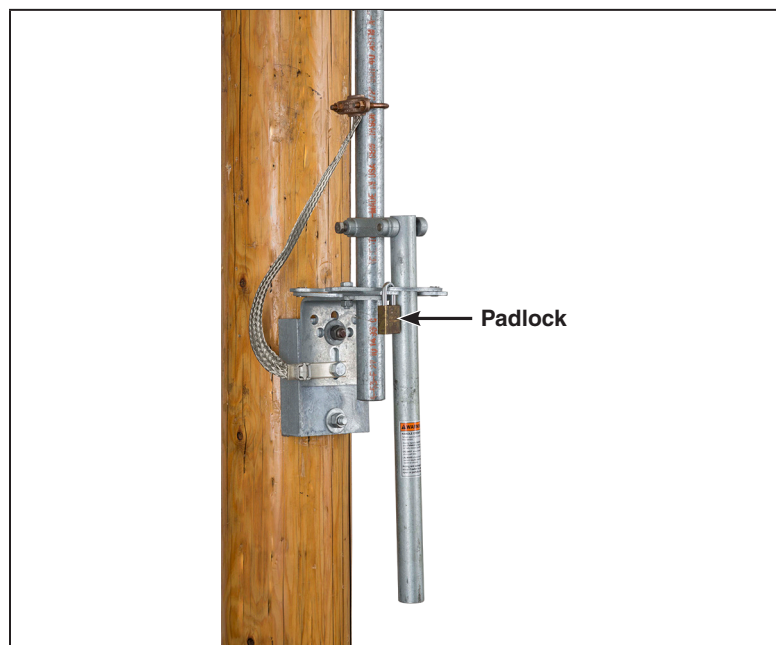

Figure 28. Remove the padlock from the manual operating handle.
- (a) Remove the padlock(s) from the hasps on the operating-handle assembly. See Figure 28 on page 26.